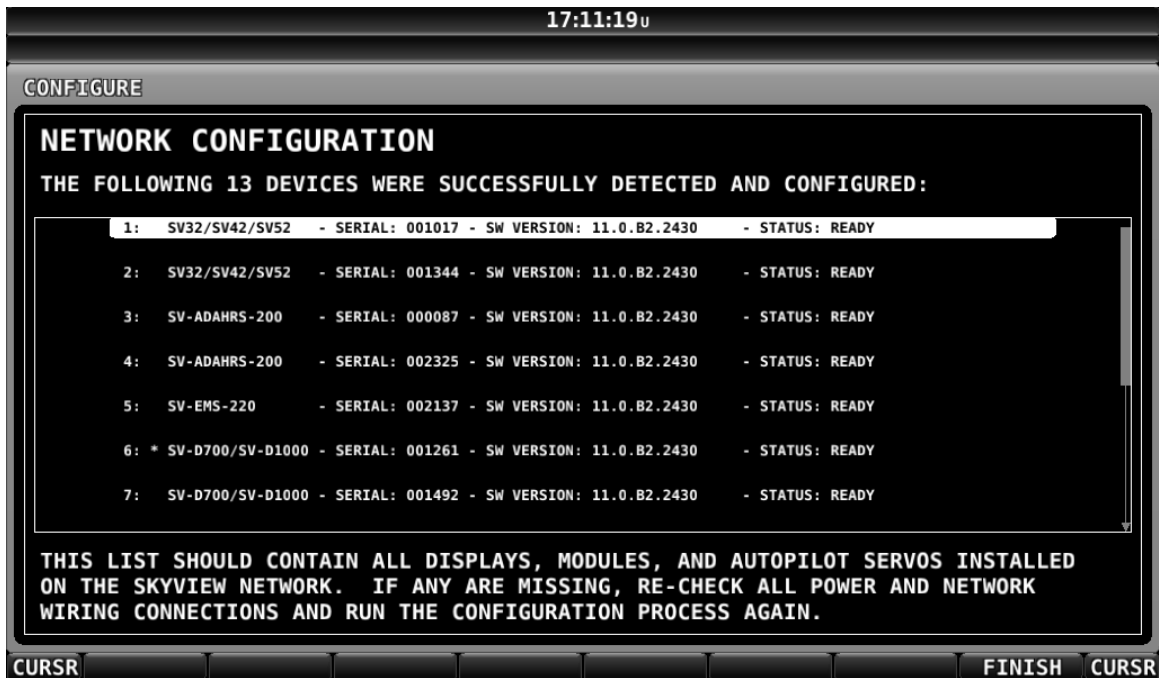

Figure 34 – Successful SkyView Network Configuration Screen
3. *Press DETECT*. A successful network configuration yields the screen in Figure 34 (depending on the units installed, your SkyView system's network devices will look different and display different Software versions).